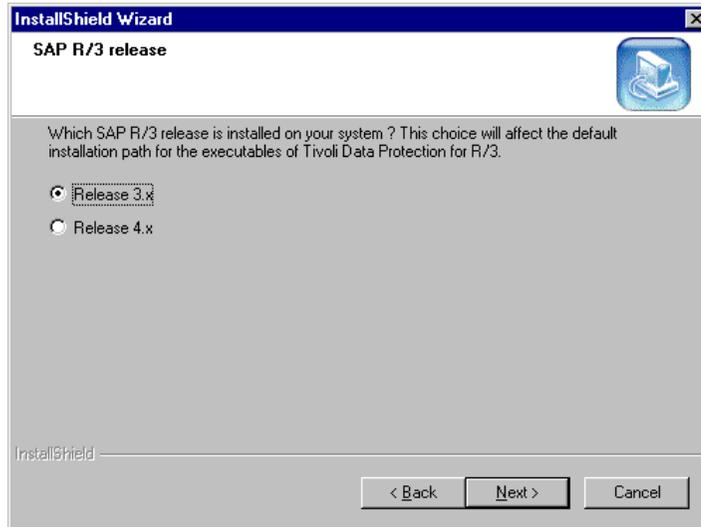

Figure 68. Specify the R/3 release
- As shown in Figure 68, now specify the version of your R/3 environment you have installed on your system. If you select the **Release 4.X** option, then the TDP's executable files will be by default installed to the <drive>:\usr\sap\<SID>\sys\exe\run folder.